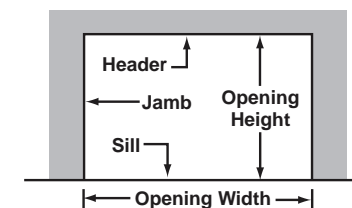

Figure 3
- Insure the wall opening matches the Opening Width and Height shown on the "Installation Data" sheet and Figure 3.